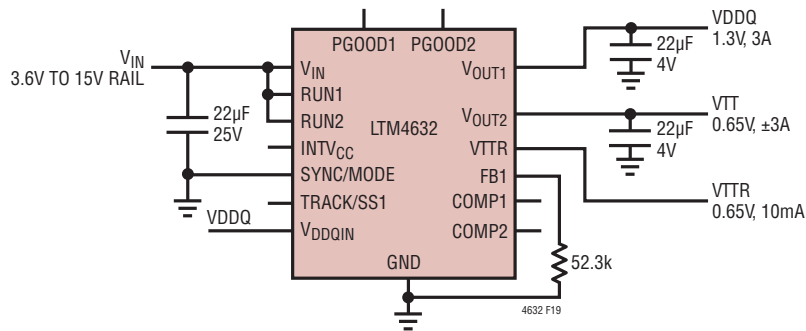

Figure 19. 3.6V to 15V Input, 1.3V/3A V_{DDQ}, 0.65V/±3A V_TT and 10mA V_TTR Design
**Table 5. Output Voltage Response for Each Regulator Channel vs Component Matrix (See Figure 19)